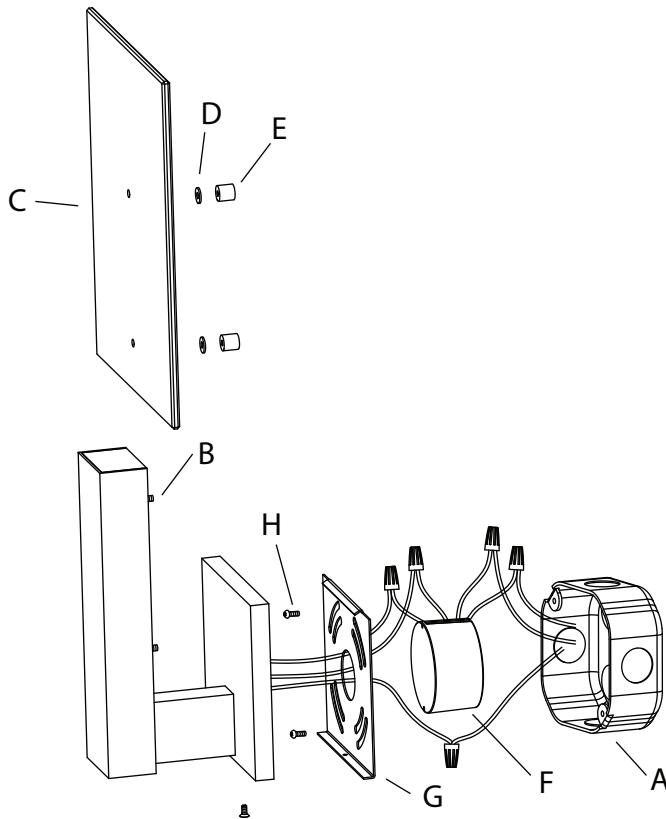

Fig. 1
1. Shut off power to the outlet box (A).
2. Place studs (B) through holes in glass (C) and silicone washers (D). Tighten with cap nuts (E). (Fig. 1)
- a. Connect the LED driver's (F) live wire (black) to the live outlet box wire.
- b. Connect the LED driver's (F) neutral wire (white) to the neutral outlet box wire.
- c. Connect fixture's ground wire (green or uncoated) to the ground outlet box wire. If no ground is present in outlet box, connect fixture's ground wire to the mounting plate (G) using the green screw (included).
- d. Carefully place connections and LED driver (F) in outlet box (A). (Fig. 1)
4. Attach the mounting plate (G) to the outlet box (A), secure with outlet box screws (H). (Fig. 1)